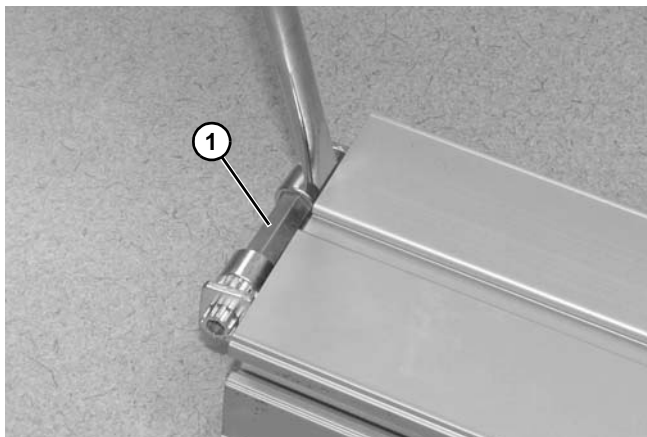

Figure 98
3. Pry pinion assembly (**Figure 98, item 1**) from conveyor frame by alternating sides.